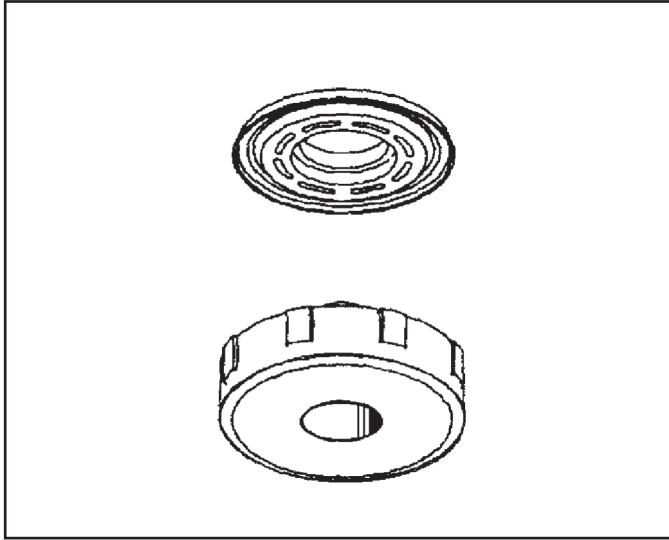

Figure 97
7. Carefully apply approximately 5 psi of air pressure to the clutch housing feed orifice and blow the piston out of its bore or gently tap the drum on the bench until the piston comes out of its bore (See Figure 97).